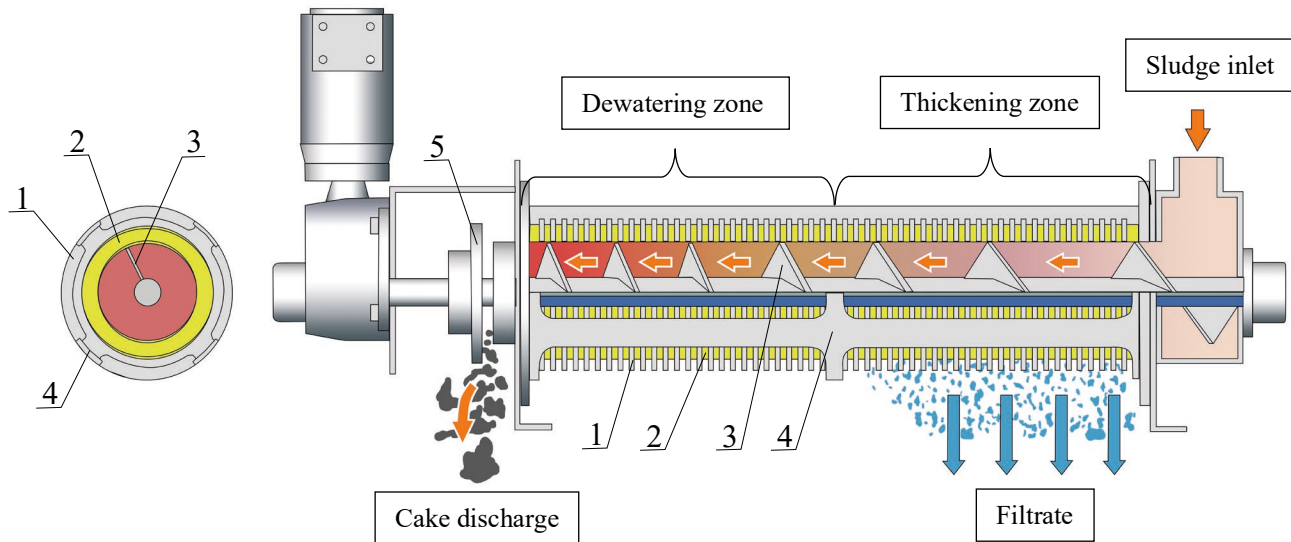

Figure 3. Dewatering drum:
The dewatering drum consists of a variable flight pitch screw (Fig. 3, pos. 3) located within a support frame (Fig. 3, pos. 4) of alternating fixed and moving discs. Fixed discs (Fig. 3, pos. 1) are equipped with spacers that hold the fixed discs apart and provide a gap for moving discs (Fig. 3, pos. 2) between them.
At the end of the drum is a spring-loaded dam plate (Fig. 3, pos. 5) through which the cake exits the unit.